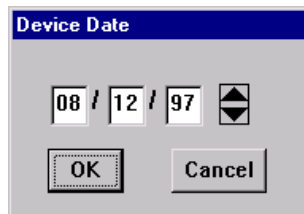

Figure 2-12. New Date Window
2. The Device Date change window, Figure 2-12, will appear.